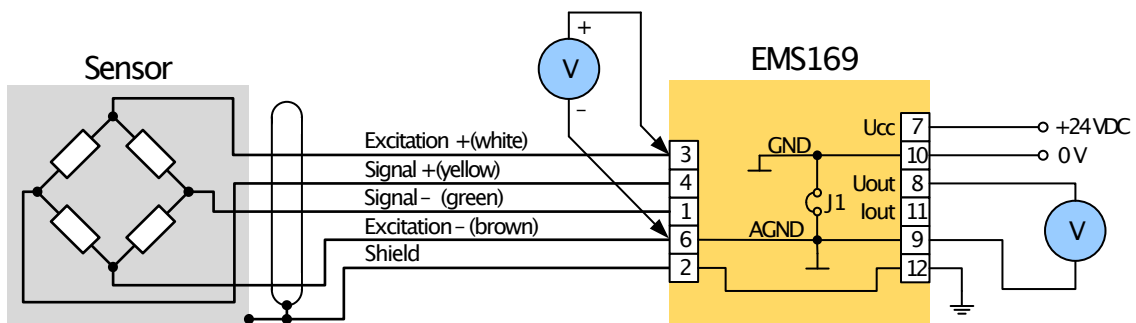

Fig. 9. Excitation sensor voltage measuring (with sensor)
4. **Sensor excitation test 2 (with sensor)**. Connect sensor to the signal conditioner according to figure 9. Measure again the excitation voltage at the clamps 3 and 6. It should be again $+ 7.0 \text{ V} \pm 5 \text{ mV}$.